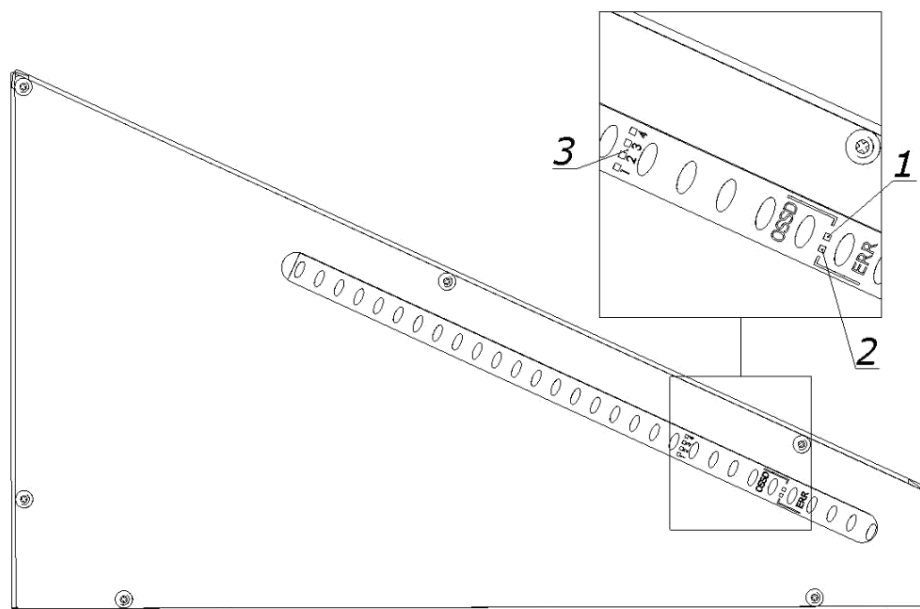
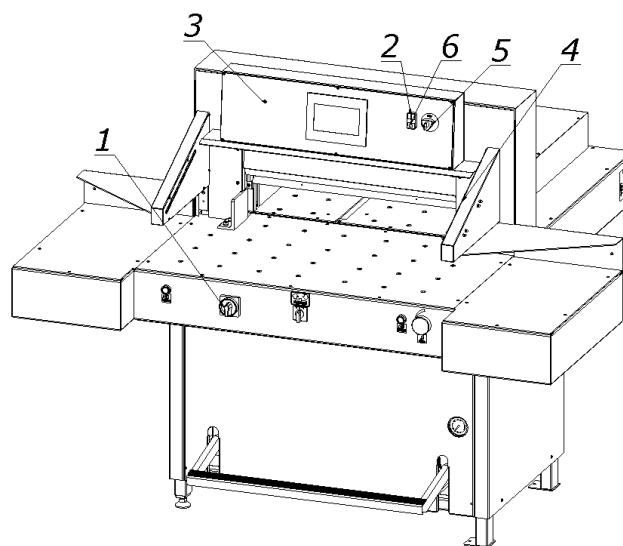
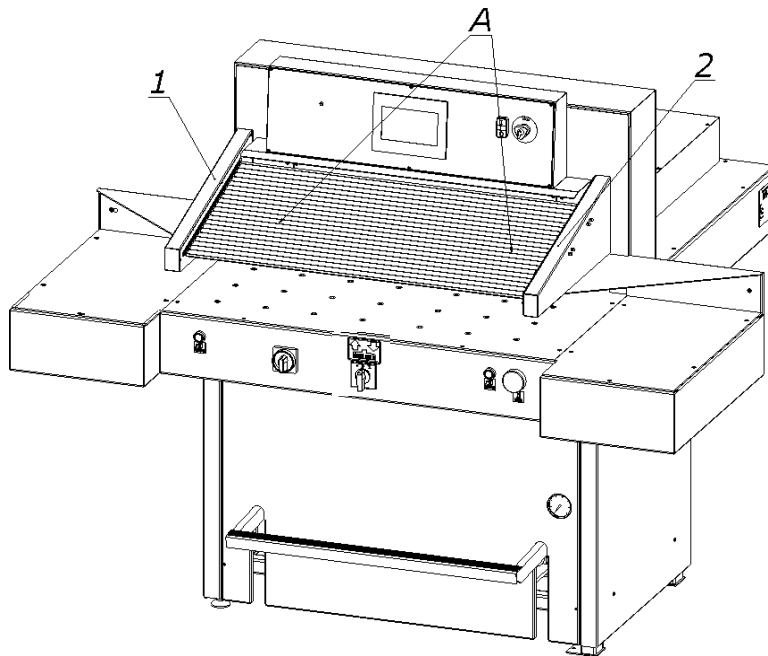

Figure 11. Receiver indicators
Figure 15. Arrangement of the elements used when switching on the cutter.
Figure 16. Light curtain
1. Set the main switch 1 (Fig. 15) to "ON" 1
2. Press the green 2 (Fig. 15) "I" button
- LED 3 (Fig. 15) lights up green
- the green OSSD 1 LED lights up (Fig.11) in the receiver 4 (Fig.15)
**After turning on the power supply with the main switch 1 (Fig. 15) and pressing the green button 2, if the LED 3 is green, the connection is correct (correct direction of rotation). If the LED is red, the connection is not correct and should be replaced in the plug two of three phase conductors.**
When the cutter is switched on, the transmitter 1 and receiver 2 are initialized (fig. 16). All transmitter and receiver LEDs will light for a moment. After initialization the receiver indicates the quality of the setting using four blue LEDs 3 (Fig.11). Table 8. The setting indicator extinguishes after a suitable time when the safety light curtain is set (the LED of the device switching the output signal: green item 1 figure 11) and only the PWR LED of transmitter 1 (fig.12) and LED 1 (fig. 11) device for switching the receiver's output signal. In the event of an error on the device, the red LED will light. On the side receiver red error LED - in combination with blue LEDs - indicates the cause of the error.
1. Press the button 5 (Fig. 15)
1. Unlock button 5 (turn it around) (Fig.15)